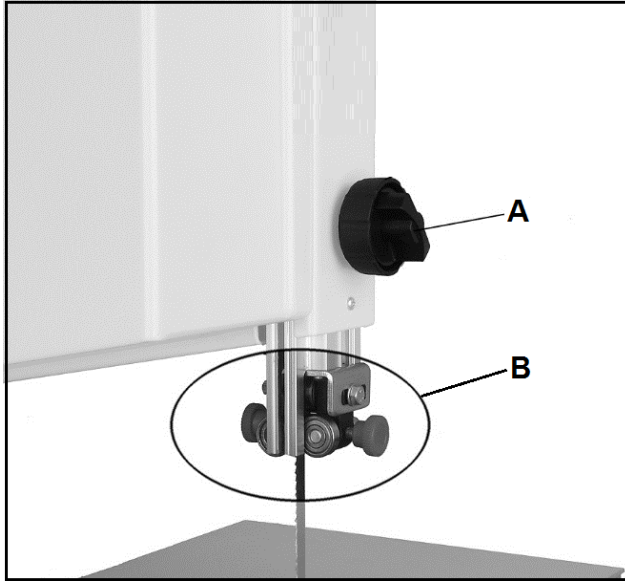

Fig. 18
To adjust the cutting height release the winged nut (A, Fig 18) and move the upper blade guide and guard assembly (B).